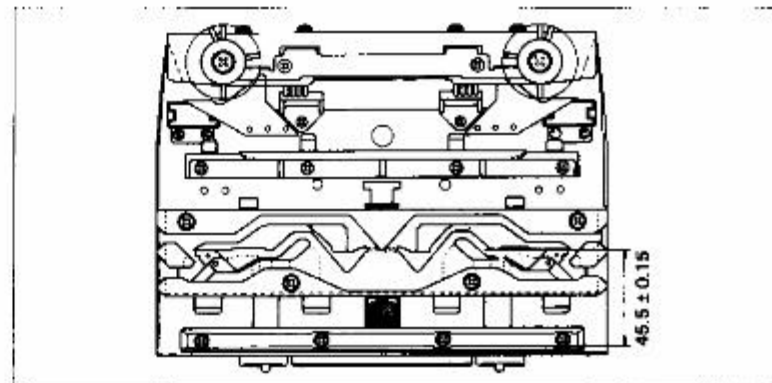

Fig. 5-11
- 5-4. From the back side of the L carriage rear foot, measure by use of a sliding calipers to place main cam in such a way as shown in Fig. 5-11 and fasten with three clamping screws.